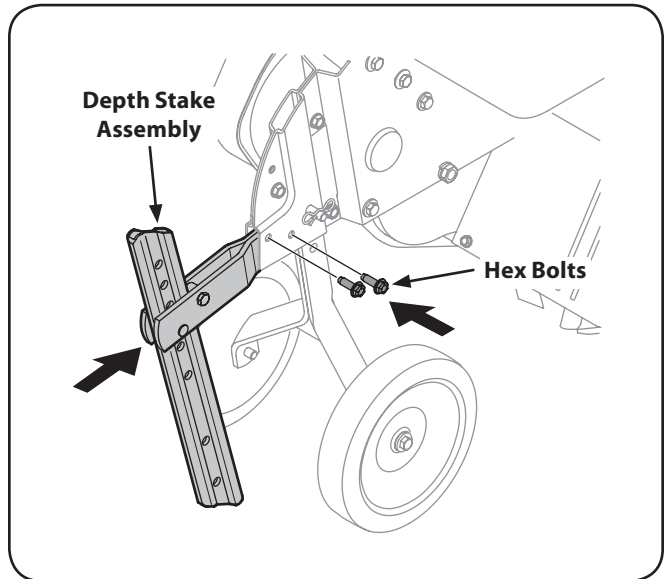

Figure 3-6
2. Insert the depth stake assembly into the frame and reinstall the two hex bolts removed in step 1. Tighten the hex bolts securely. See Figure 3-6.